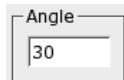

Figure 35: Text angle.
1. Enter the angle for the text (Figure 35). Normal horizontal texts have an angle of zero degrees.